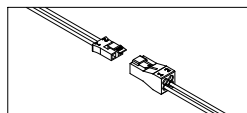

Fig. 8. LED Feed Connectors.
4. Find LED feed connectors on both adjoining segments and connect them (Fig. 8). Some high output fixtures have a separate feed to remotely installed driver(s) for each segment, and do not required step 4.